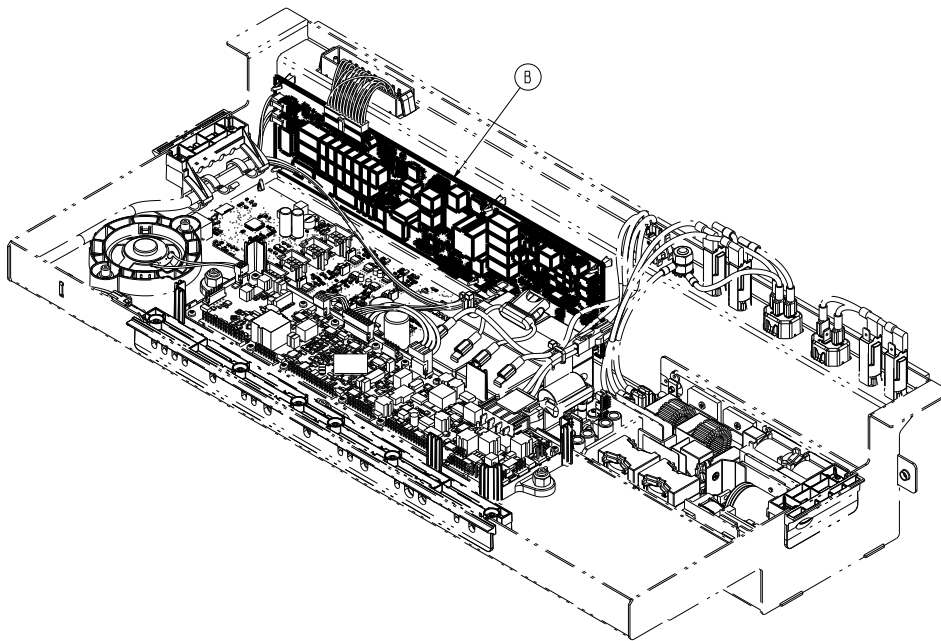

Figure 30 – Replacing the room interface board
13. Using needle nose pliers, unclip the eight locking standoffs that secure the room interface board (B) to the electronics box assembly (Figure 30).